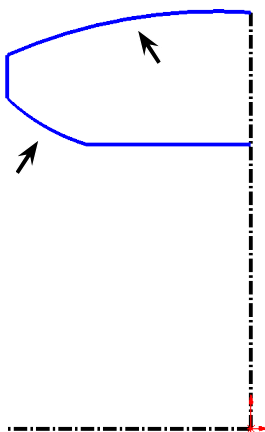

Fig. 4
Step 7. Click **3 Point Arc**  (S) in the **Arc flyout**  on the Sketch toolbar.
Step 8. Sketch **two arcs**, **Fig. 4**.